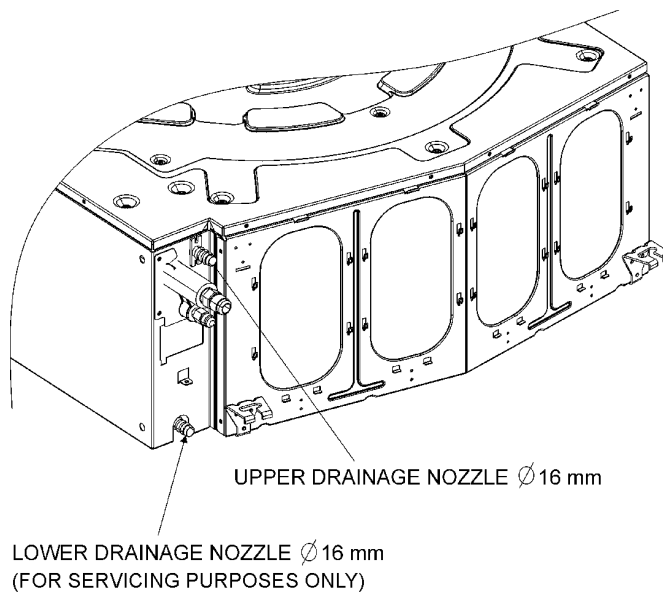

Fig. 13. Drainage connectors  $\varnothing$  16 mm
- C. The DNC unit includes a drainage pump with level control, which can elevate condensation water to a level of up to 60 cm from the unit’s lower level. The drainage tube is connected to the upper drainage nozzle (see Fig. 13).